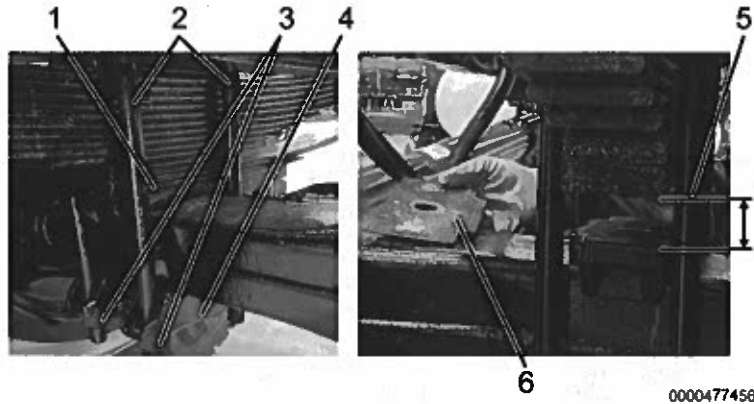

Figure 1. Spring Wedge Shim Orientation
2. U-joint bolt (2)
7. Starting on driver-side of vehicle, remove four U-bolt nuts and washers (Figure 1, Item 3), and lower axle seat (Figure 1, Item 4). Discard nuts and washers only.
8. Lower jack to create a gap between leaf spring and axle (Figure 1, Item 5), to allow removal of spring wedge shim (Figure 1, Item 6).